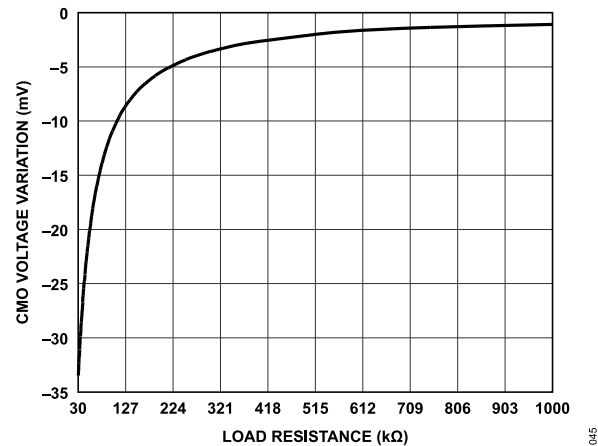

Figure 46. CMO Voltage Variation vs. Load Resistance
- ▶ If the external load on a CMO_{ChX} pin exceeds 30µA ($R_L < 45k\Omega$). For the typical load regulation information, see Figure 46.